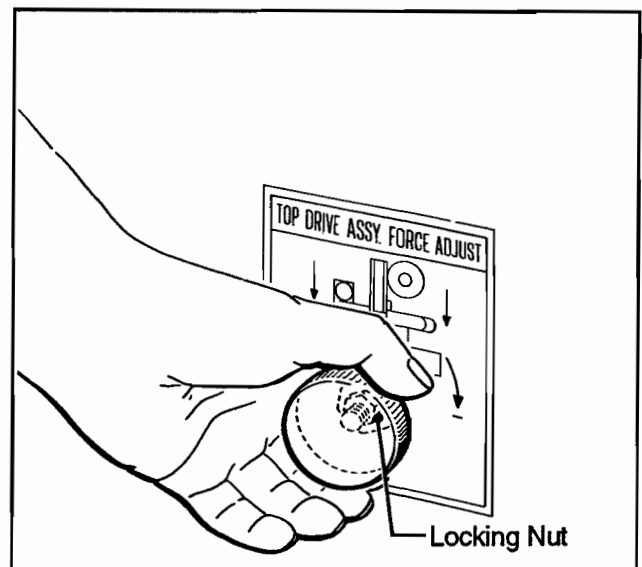

Figure 3-5 – Air Regulator, Upper Taping Head Frame
⑧ Air Pressure Regulator, Upper Taping Head Frame Figure 3-5
For boxes which are fully packed with products that support the top flaps, the adjustment of this regulator is not critical since the boxes can support the pressure of the upper frame (drive belts) at a wide range of regulator settings. However, if under-filled or fragile boxes are sealed, this regulator can be used to set the upper frame pressure to a minimum that is still adequate to positively convey the box and to prevent damage of boxes. The regulator setting can be locked by securing the lock nut on the regulator shaft as shown in Figure 3-5.